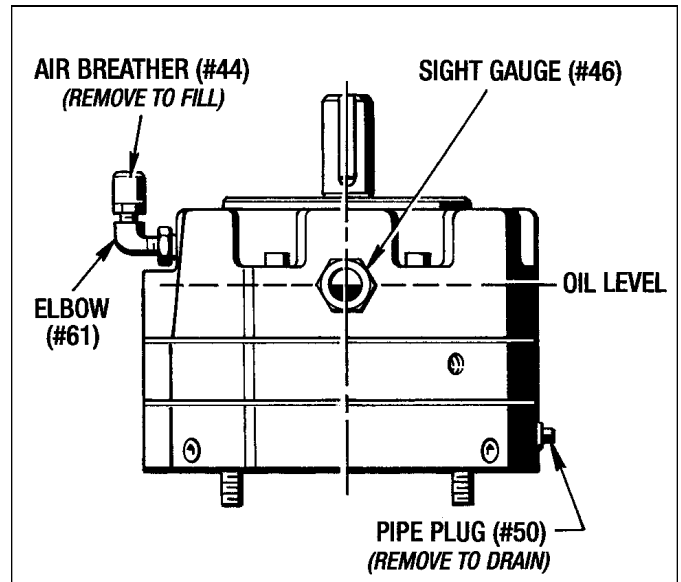

Figure 4.2 - Vertical Up Brake Lubrication
2. Vertical Up Brake *Figure 4.2*
(See Figure 4.2)
2. Remove the Air Breather (#44) from the Elbow (#61) and fill the brake with fresh oil. Fill until the oil is at the center of the Sight Gauge (#46) as shown in Figure 4.2. **Oil capacity is approx. 1 Pint.** Replace the cleaned Air Breather (#44) after filling.